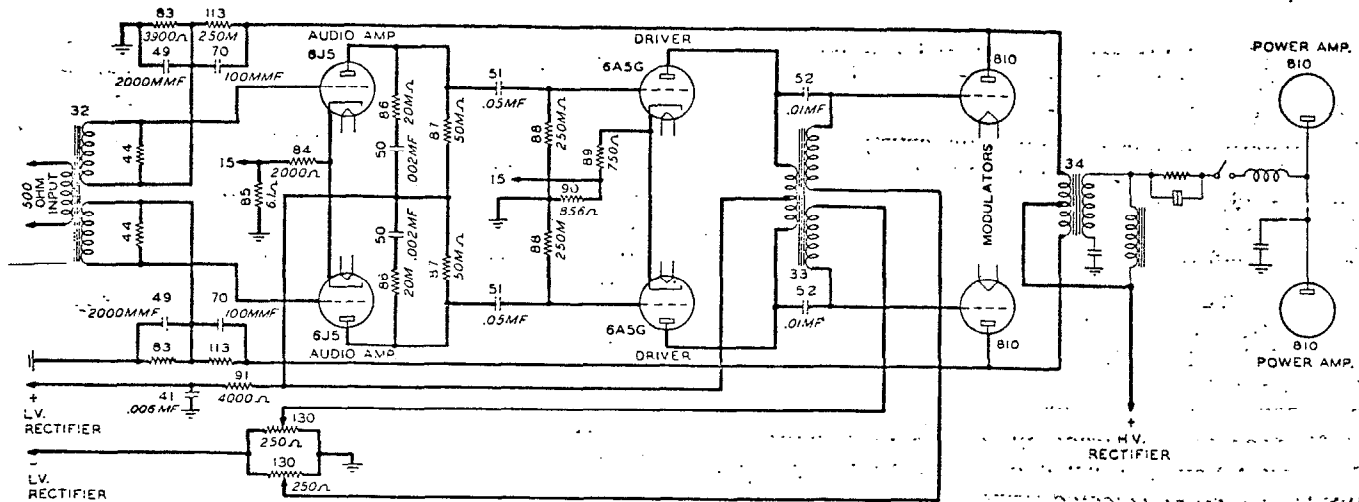

Figure 2-12. Audio Driver and Modulator Schematic
f. AUDIO CIRCUITS. (Refer to figure 2-12.)- The audio frequency system, employing a feedback circuit, is designed to give exceptionally high fidelity. An audio input level of approximately +1 DBM is required for full 100% tone modulation. The audio input impedance is 500 ohms. The system is designed for operation with an external program amplifier such as the Collins' Type 6M or 26W. The audio input voltage is applied across the terminals of a resistance network inserted between the input terminals and the audio input transformer, Item 32. The secondary of Item 32 is shunted by two loading resistors across each winding for better regulation. The single stage of audio amplification utilizes a pair of 6J5 tubes in a push-pull amplifier circuit. The output of the 6J5's is resistance coupled to the grids of the audio driver tubes. The audio driver employs a pair of 6A5G tubes in a Class A amplifier circuit. The output of the audio driver is transformer coupled to the grids of the modulator.